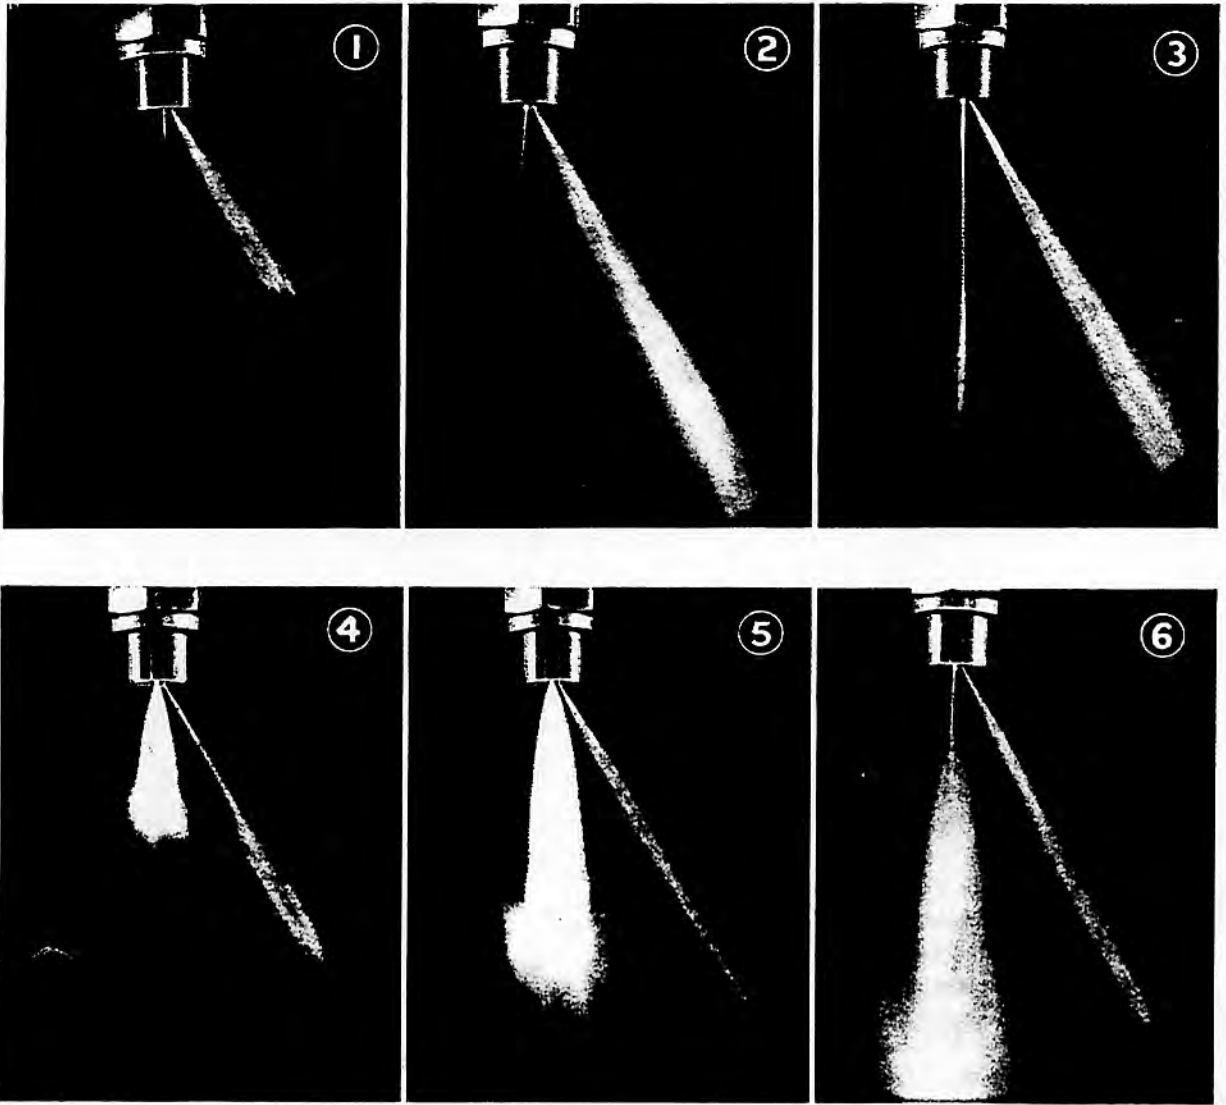

FIG. 119 PINTAUX NOZZLE SPRAY
Mount the Injector complete with Pintaux Nozzle on the Test Rig Adaptor and atomise several times to expel air from the system. Operate the Nozzle Test Rig at a minimum frequency of 60 strokes per minute and observe the spray from the auxiliary hole. This should be well formed and free from splits or distortions—a slight centre core may be disregarded. See Fig. 119. (1, 2 and 3).
3. **Atomisation—Main Spray.** Leave the Injector as for Test 3 and operate the hand lever at 140 strokes per minute. The spray form should be well atomised, free from splits, distortions, or a well defined core centre—a slight centre core can be disregarded. See Fig. 119 (4, 5 and 6).